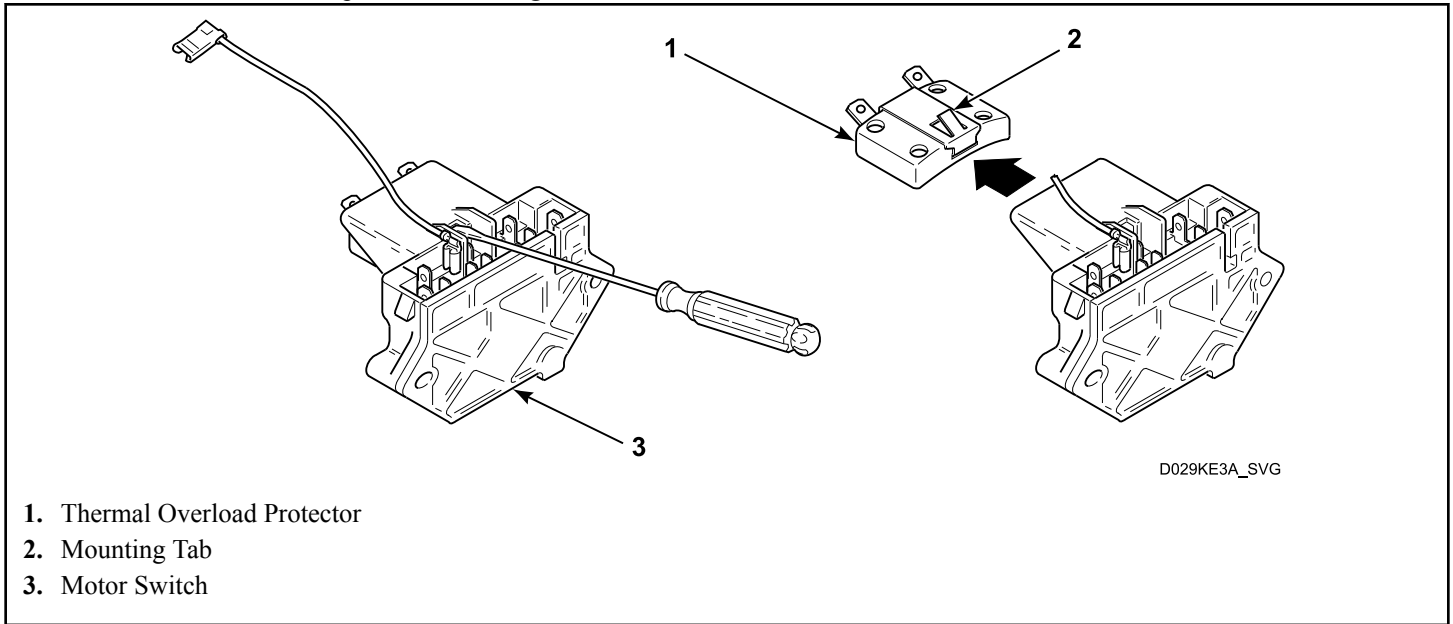

Figure 6
2. Remove the two motor switch attaching screws. Refer to *Figure 6*. Disconnect switch leads. Remove motor switch.
- a. **Motor with Switch on Blower End.** Using a small bladed screwdriver, press the thermal overload protector mounting tab downward and remove the thermal overload protector from the inoperative motor switch. Refer to *Figure 6*.
5. Install new motor switch onto motor and reconnect motor switch leads removed in Step “2”. Refer to *Figure 6*.